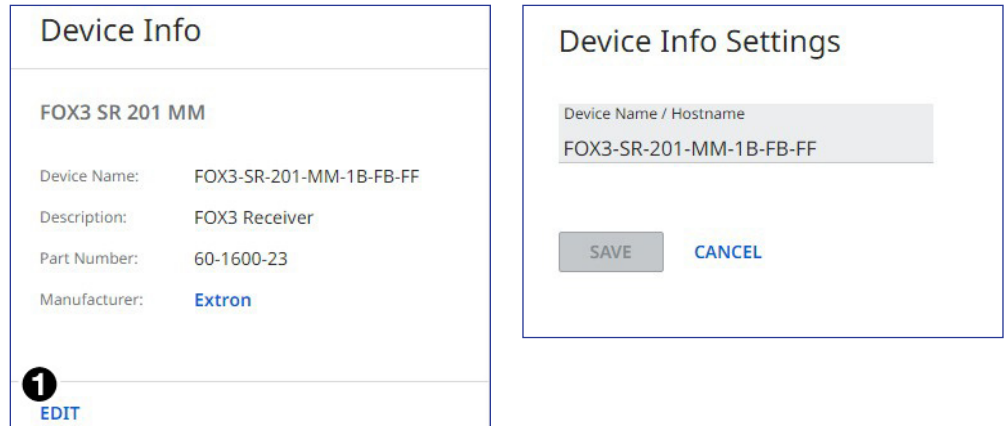

Figure 34. Device Info Panel
1. Click **EDIT** (see figure 34 [left], ❶) in the **Device Info** panel. The **Device Info Settings** panel opens to allow edits (right).